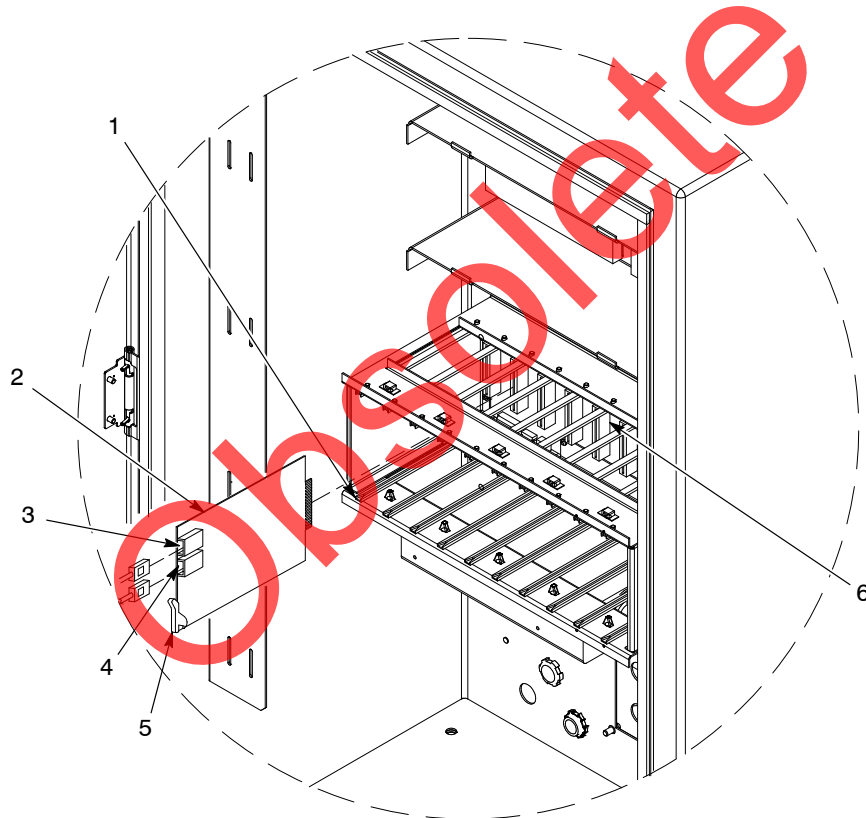

Figure 5-3 Gun Control Card Replacement
See Figure 5-3. Gun control cards (2) are installed in the card cage from left to right. Each card controls two guns: the bottom receptacle on the card is the odd gun number; the top receptacle the even gun number.